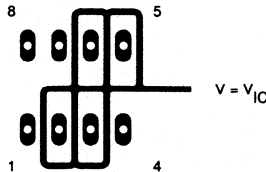

FIGURE 4. ISOLATION METAL AROUND DEVICE INPUTS (P AND JG DUAL-IN-LINE PACKAGE)
- 1 Isolate the device from other potential leakage sources. Use a grounded shield around and between the device inputs (see Figure 4). Leakages that would otherwise flow to the inputs will be shunted away.